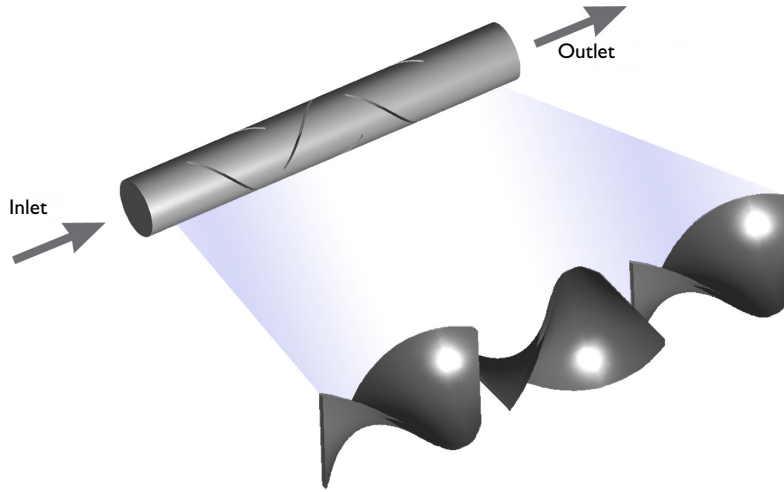

Figure 1: Depiction of a laminar static mixer containing three blades with alternating rotations.
- 7 On the **Drift Velocity** toolbar, click **Plot**. The resulting image should look like Figure 1.
This model studies the mixing of one species dissolved in water at room temperature. The geometry consists of a tube with three twisted blades of alternating rotations (Figure 1).
The particle trajectories are plotted in Figure 1. Because the particles have mass, they do not necessarily all reach the outlet; some of the particles get stuck to the mixer walls. The transmission probability is defined as the ratio of the number of particles that reach the outlet to the total number of particles released. For this specific configuration the transmission probability is about 0.80. This means that about 20% of the particles remain trapped in the mixer.